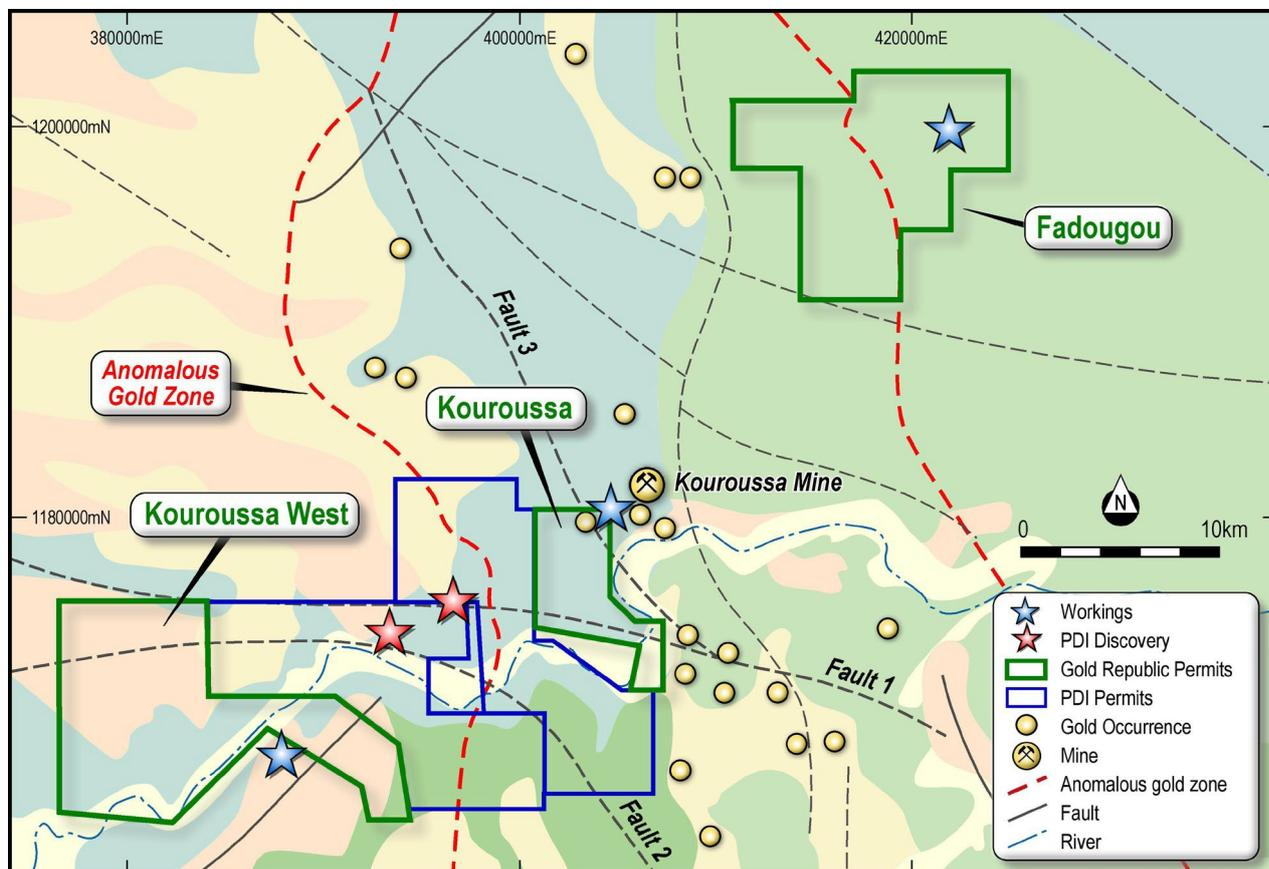

Figure 2. Permits on regional scale geological map (Digitized from Guinea Government Geological Map of 2006)
- Review of previous geological maps covering the Kouroussa Project (Kouroussa, Kouroussa West and Fadougou permits) have identified a series of EW (Fault 1 and Fault 2) trending faults displaced by a second set of NS (Fault 3) trending fault systems. A final NE sequence of interpreted faults is aligned with the main know deposits in the region. Gold mineralization seems to be associated with the fault systems which cut through the Kouroussa and Kouroussa West permits (see Figure 2 below).